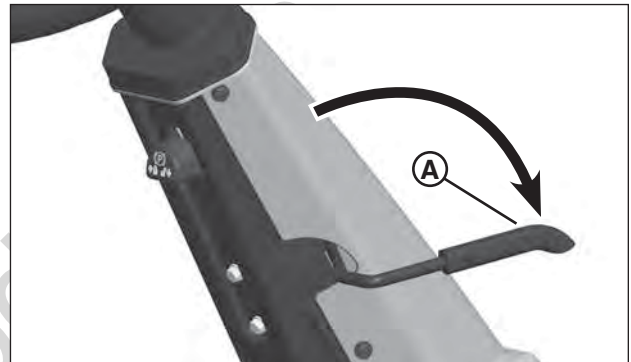

Figure 15: Blade control
1. Stop the mower blade by moving the blade control (A, Figure 15) to the OFF position.